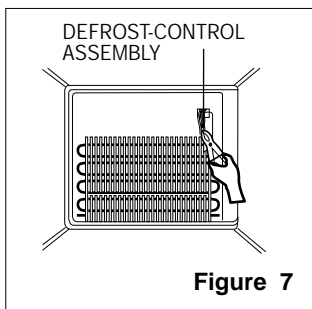

Figure 7
2. Separate the connector with the Defrost Control assembly and replace the Defrost Control assembly after cutting the Tie Wrap. (Figure 7)